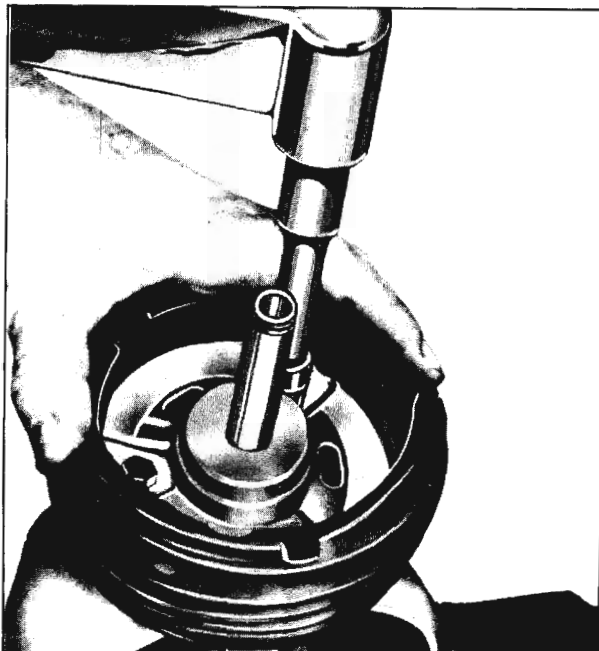

Fig. 7-128 Installing Guide Sleeve and Retainer
- Carefully place the assembled bellows and guide sleeve and retainer assembly over the valve balancing diaphragm, using a twisting motion, then position on the valve housing. Check alignment marks to be sure of correct positioning. Start the three self-locking and sealing cap screws. Do not use lock washers. Then tighten the three self-locking and sealing cap screws evenly to 7 to 9 ft. lbs. (Fig. 7-128)